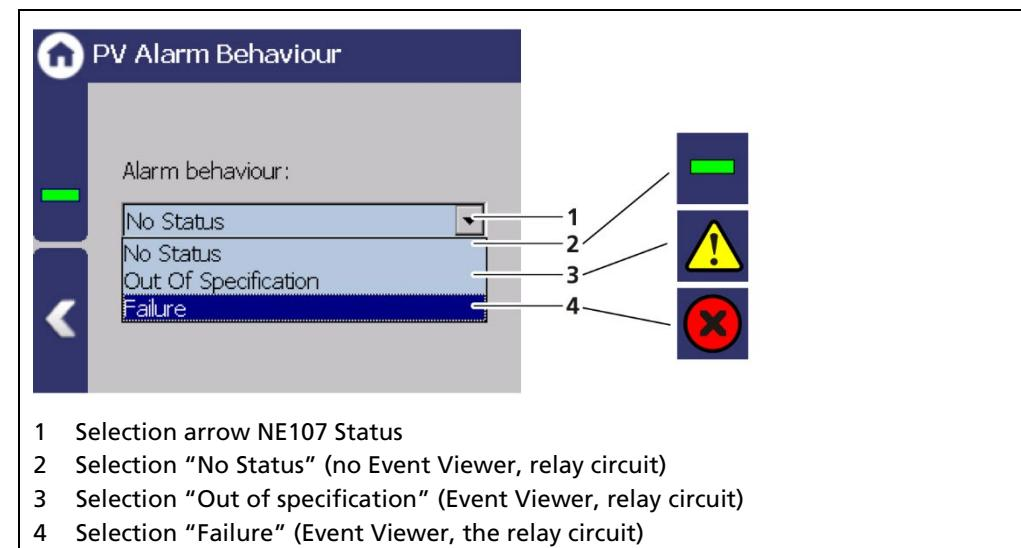

Fig. 121 PV Alarm Behaviour
When exceeding or falling below the switching point, an event message appears in the status display. If a digital output "min. level Alarm" or "max. level Alarm" is assigned under the function (Fig. 121, item 6), the relay alarmed.